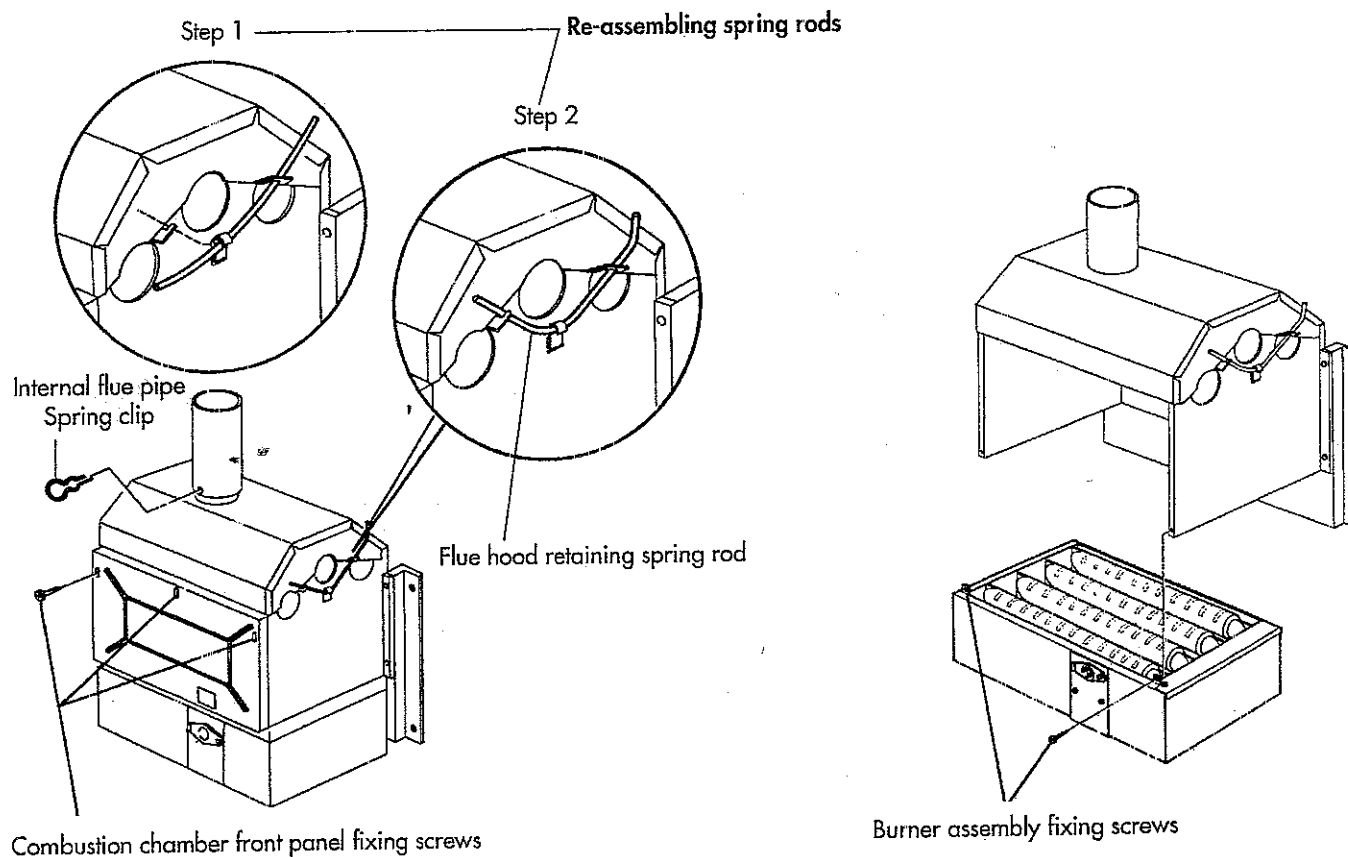

Fig. 49
- d) Remove combustion chamber front panel by unscrewing the two fixing screws (fig. 49).
- e) Unscrew the burner assembly fixing screws (fig. 49) and remove complete burner assembly (take care not to lose sealing cap on gas supply pipe).
- i) Remove flue hood retaining spring rods by pushing up and outwards (fig. 49).
- j) Remove the spring clip securing the flue hood to the internal flue pipe and push the flue pipe upwards (fig. 49) and latch it in the flue to keep it out of the way.
- 2.14 Remove the three screws securing the burner air guide plate (fig. 49)
- 2.15 Remove the two fixing screws securing the injector rail (fig. 49) and remove the injector rail complete with burners